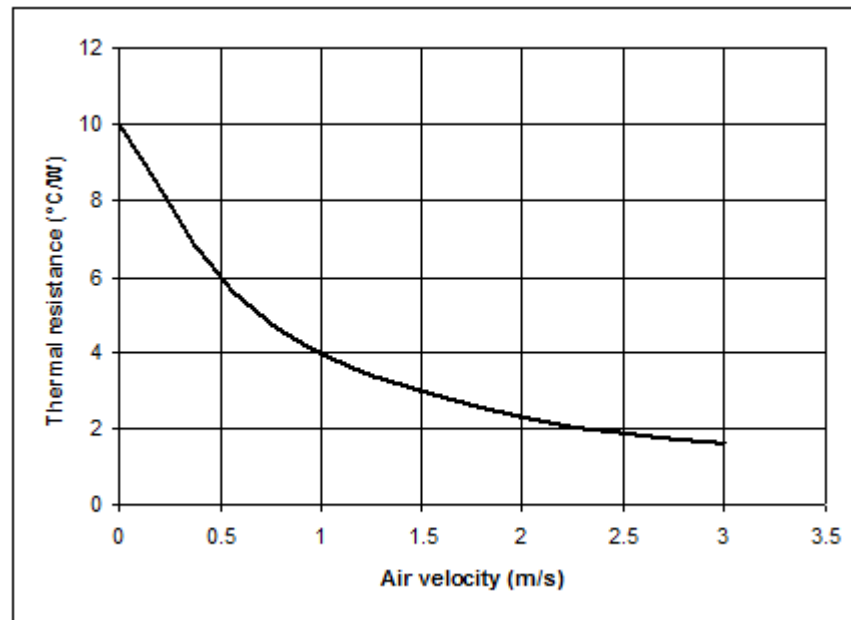

Figure 2 Thermal performance of 'Cool Master' module
3. Figure 2 and Table 3 contain data on a type of IC cooling module called the 'Cool Master'.
- b. Using the data and graph above, calculate the thermal resistance of the Cool Master (5)
- c. A Pentium-4 CPU attached to a Cool Master dissipates a maximum power of 25 W. What is the maximum thermal resistance of the Pentium-4 package R_{jc} that will keep the chip at a safe operating temperature? State any assumptions that you make. (4)
- d. The data in Figure 2 is for operation at sea level. How would the performance of the Cool Master be affected if it was operated at high altitude? (2)